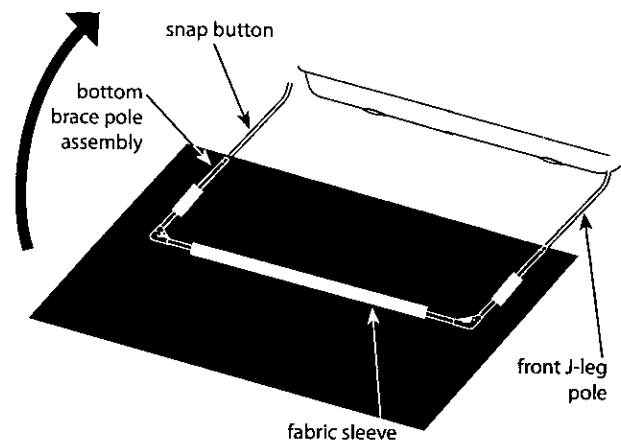

Figure 8
4. Unfold the skin and locate the Eskimo logo near the zippered door, which is the front of shelter. With the front of shelter skin laying face down on the ground, in front of shelter, locate the (3) fabric sleeves sewn to the bottom seam on front side of shelter. Slide the 54.52" horizontal assembly pole (68189) through the long fabric sleeve. Insert the horizontal assembly pole into (2) plastic corner pieces by lining up snap button with snap button holes in plastic corner pieces. Snap into place. Pole will have a snug fit and may shave some interior plastic off. This is by design for a good fit. **SEE FIGURE 8.**
5. Insert (2) 25.14" vertical assembly poles (68185) through the short fabric sleeves and into the previously assembled horizontal pole/plastic corner assembly by lining up snap button with the snap button holes in plastic corner pieces. Snap into place. Poles will have a snug fit and may shave some interior plastic off. This is by design for a good fit. **SEE FIGURE 8.**
6. Take the J-hinge poles from each hinge assembly and insert them into the assembled bottom cross brace pole assembly in step 5. Push snap buttons inward and allow cross brace to snap into place. **SEE FIGURE 8.**
4. Unfold the skin and locate the Eskimo logo near the zippered door, which is the front of shelter. With the front of shelter skin laying face down on the ground, in front of shelter, locate the (3) fabric sleeves sewn to the bottom seam on front side of shelter. Slide the 67.52" horizontal assembly pole (68191) through the long fabric sleeve. Insert the horizontal assembly pole into (2) plastic corner pieces by lining up snap button with snap button holes in plastic corner pieces. Snap into place. Pole will have a snug fit and may shave some interior plastic off. This is by design for a good fit. **SEE FIGURE 8.**
5. Insert (2) 29.64" vertical assembly poles (68187) through the short fabric sleeves and into the previously assembled horizontal pole/plastic corner assembly by lining up snap button with the snap button holes in plastic corner pieces. Snap into place. Poles will have a snug fit and may shave some interior plastic off. This is by design for a good fit. **SEE FIGURE 8.**